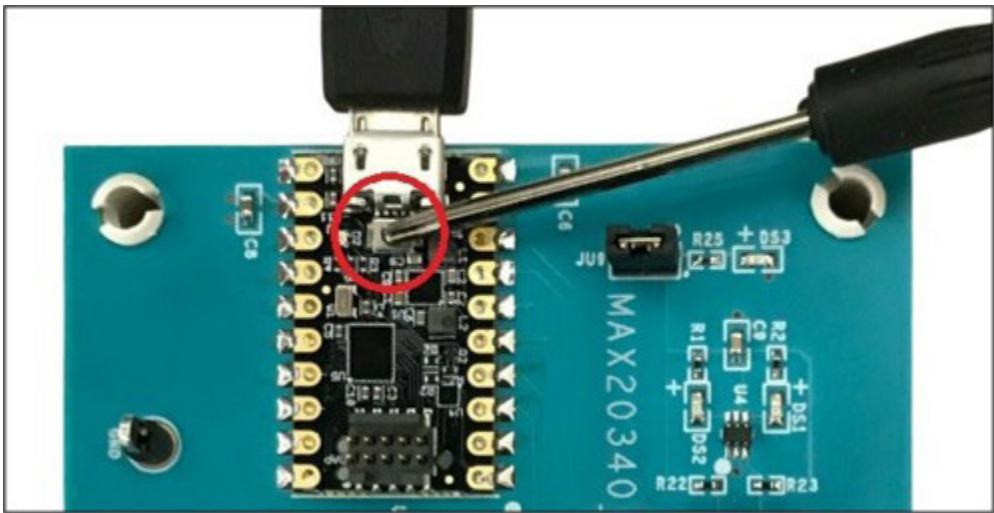

Figure 12. Enter maintenance mode on the MAX32625PICO.
- 1) Put the board in maintenance mode by holding the button while the board is being connected to the computer. It might be easier to hold the button while inserting the USB cable at the computer end rather than the micro-USB connector end (see Figure 12).